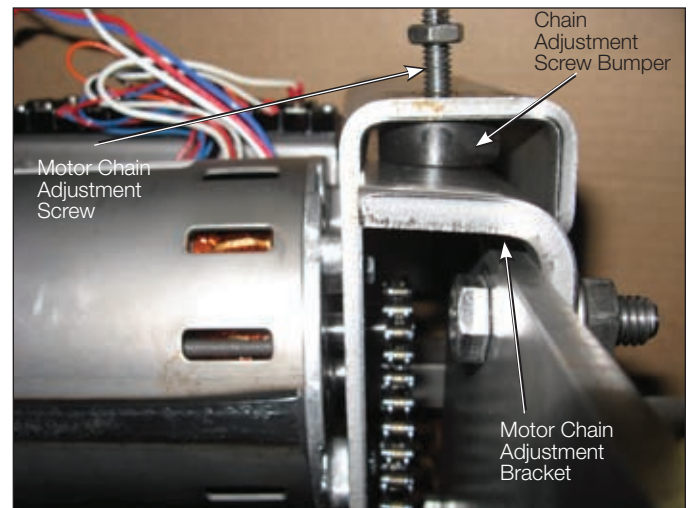
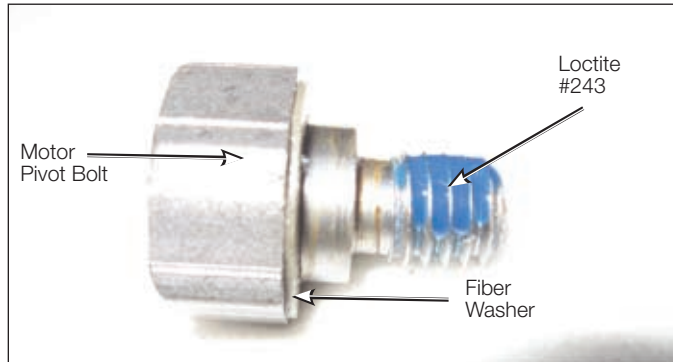
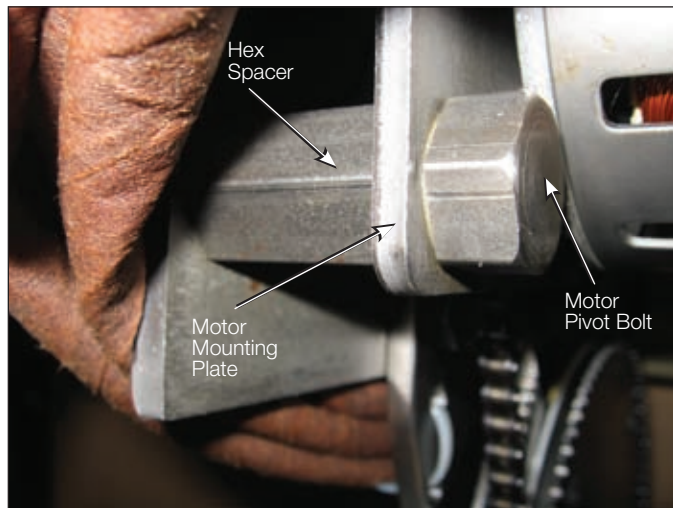

Figure 11.
Figure 13.
Figure 14.
- Hold the motor near the final motor position and put the chain on the motor sprocket. Move the motor assembly into position with the motor chain adjustment screw bumper located on top of the adjustment bracket and the motor pivot stud inserted through the mounting hole in the motor mounting plate. Secure the motor mounting plate to the motor pivot stud with the locknut removed in step 6a. Refer to Figures 11 & 12. Using a torque wrench with a 9/16 inch (14mm) socket, tighten the motor pivot stud locknut to 180-192 lb-in (20.3-21.7 Nm). Proceed to Step 13.
12. Apply Loctite 243 on the threads of the motor pivot bolt and verify the fiber washer is still located on the motor pivot bolt shoulder. Refer to Figure 13. Hold the motor near the final motor position and put the chain on the motor sprocket. Move the motor assembly into position with the motor chain adjustment screw bumper located on top of the adjustment bracket. Refer to Figure 11. Align the hole in the motor mounting plate with the hex spacer hole. Insert the motor pivot bolt through the motor mounting plate and hand tighten into the hex spacer. Refer to Figure 14. Using a torque wrench with a 3/4 inch (19mm) socket, tighten the motor pivot bolt to 45-55 lb-in (5.1-6.2 Nm).